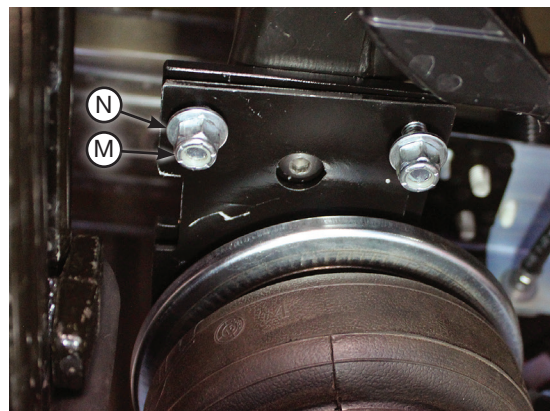

fig. D.21
8. Before proceeding, make sure that the 90° fittings are pointing inboard toward the center of the vehicle. While raising or lowering the axle or body of the vehicle, align the previously installed upper bellows bracket carriage bolts with the frame bracket so the carriage bolts protrude through the bracket. Cap the carriage bolts with the 3/8" flat washers (N) and 3/8"-16 nylon lock nuts (M) (Fig. D.21). Snug the nuts down first then torque to 31 lb.-ft. (42Nm). Raise the axle or lower the body and remove jack stands.